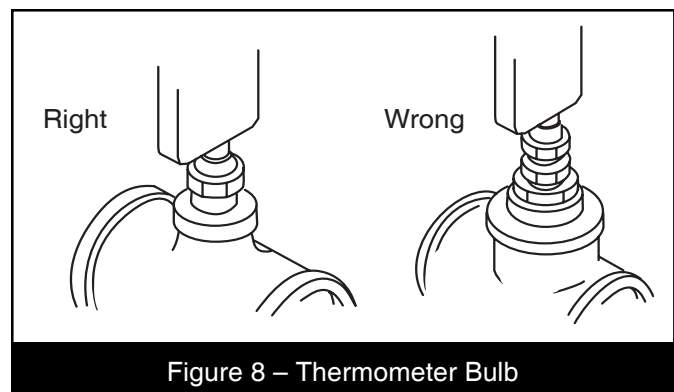

Figure 8 – Thermometer Bulb
8. Keep thermometer bulbs in moving water. Use of a bushing will cause temperature readings to be off 10° or more (**Figure 8**).